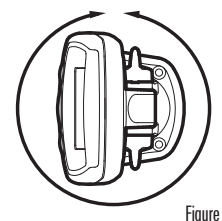

Figure 1
- Clearance:** The mounting area should allow sufficient room for the unit to tilt and swivel freely, and for easy removal and installation (Figures 1 and 2).